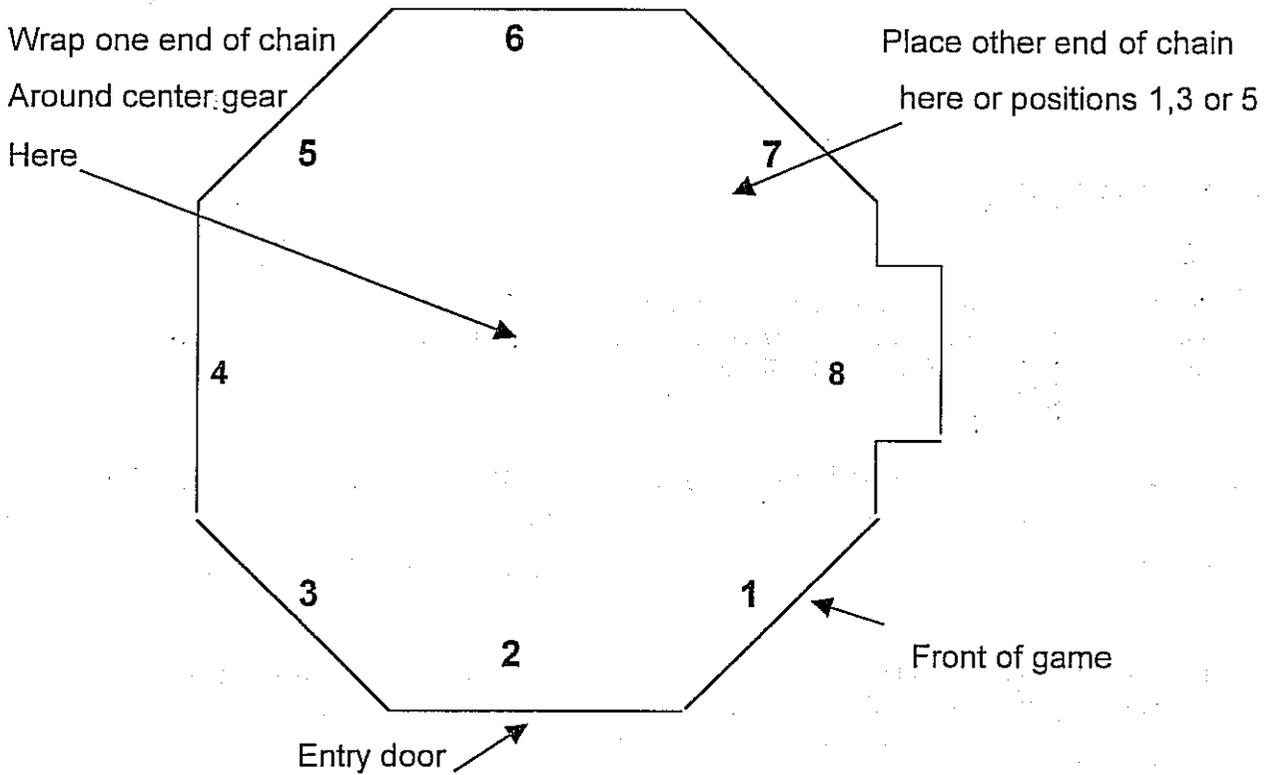
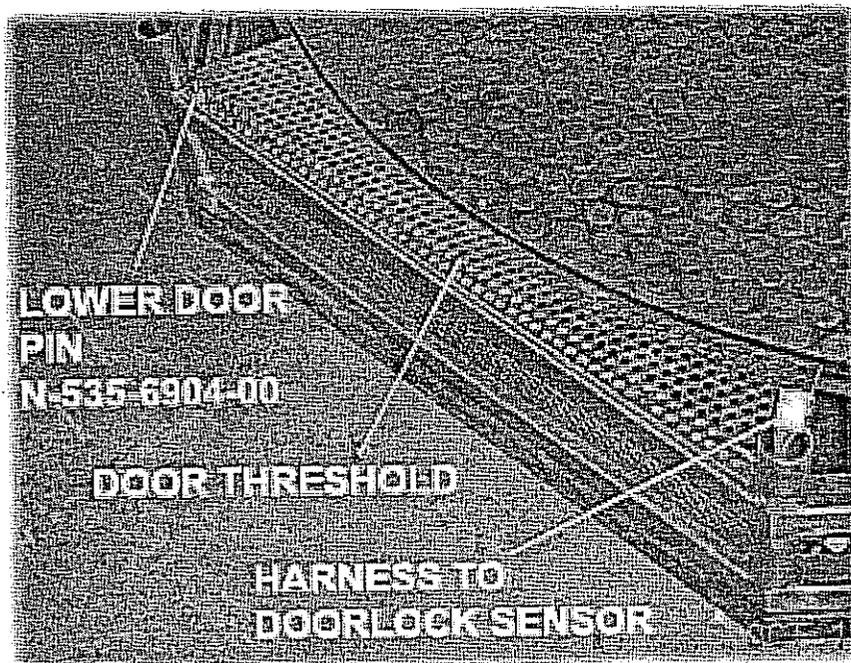

Figure 1
Figure 16
Position the rectangular extension of the sub floor section (see position 8 in figure 1) closest to your power source. This is where the coin tower will be attached and where the main AC cable will be located. One position from the coin tower extension, in the clockwise direction, (looking down onto the sub floor) will be the "front" of the game (position 1 in figure 1) and should be oriented toward the best viewing angle as determined by the installer. One more position in the clock-wise direction (position 2 in figure 1) is where the door will be located. Be sure there is enough clearance for the door to swing open without blocking an aisle.
2. Remove the kick panels and neon lights located at positions 1, 3, 5 and 7. (See figure 1).
4. Next, identify the roller chain. Wrap one end of the chain around the large gear in the center of the sub floor (see figure 1) and place the other end of the chain toward the outer edge of the base, one position to the left (counter clock wise) of the coin tower extension (position 7 in figure 1), or positions 1, 3 or 5 as shown in figure 1 will also work. The end of the chain will now be in position to be attached to the motor, once that step is reached.
Look at the base assembly and identify the door threshold. It is position #2 in figure 1. There will be a pin in the left of the panel. This pin is the lower pivot point for the door. (See figure 16).